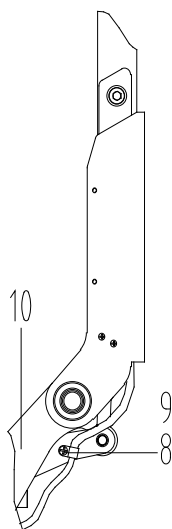

Figure 4
- As shown in Figure 4, fix the truck body harness 5 to the handle base 10 with screws 8 and line cards 9, press the handle down and slowly release it, observe whether the harness is properly fastened, and then test whether the truck functions normally according to the truck operation instructions.